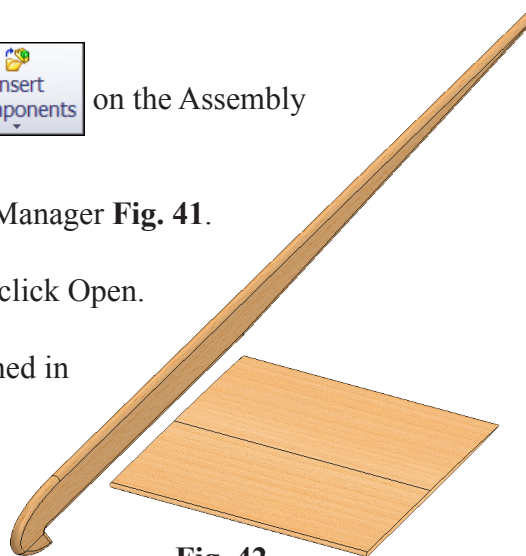

Fig. 42
Step 5. Place Wing Inboard as positioned in **Fig. 42**.